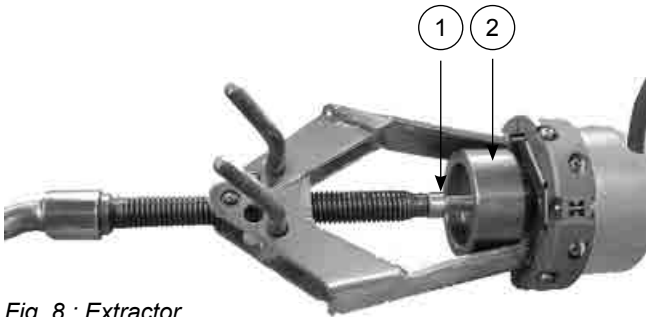

Fig. 8 : Extractor
- Retract the drive sleeve from the encoder (Ref 2 fig. 8) with help of a bearing extractor (fig. 8) and a socket screw M6x30 (Ref.1 fig. 8) screwed into the conical shaft of the encoder.